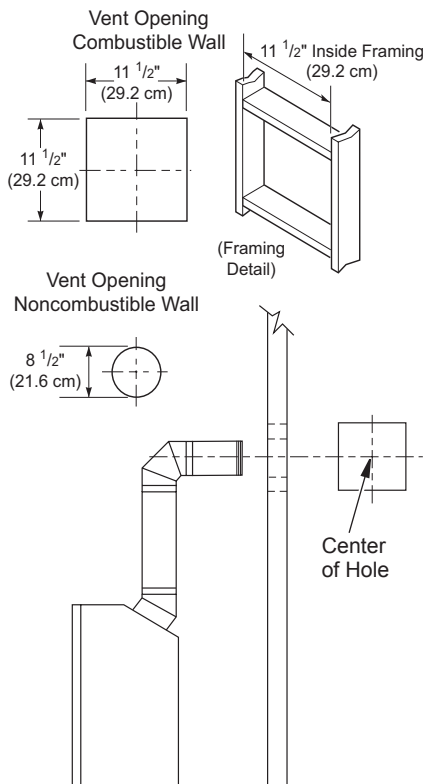
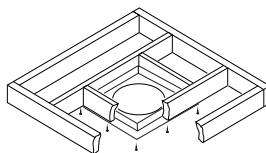

Figure 9 - Vent Opening Requirements
Figure 20 - Installing Firestop
5. Carefully determine location where vent pipe assembly will penetrate outside wall. Center of hole should line up with center line of horizontal vent pipe. Mark wall for a 11 1/2" x 11 1/2" square hole. Cut and frame square hole in exterior wall where vent will be terminated. If wall being penetrated is constructed of non-combustible material, such as masonry block or concrete, a 8 1/2" hole with zero clearance is acceptable (see Figure 9).
ing should be framed to 11 1/2" x 11 1/2" (29.2 cm x 29.2 cm) inside dimensions, as shown in Figure 9 on page 10 using framing lumber the same size as ceiling joists. If area above ceiling is an insulated ceiling or and attic space, nail firestop from top side. This prevents loose insulation from falling into required clearance space. If area above ceiling is a living space, install firestop below framed hole. Firestop should be installed with no less than three nails per side (see Figure 20).
3. Cut a hole in roof using locating hole as a center point. (Cover any exposed open vent pipes before cutting hole in roof.) The 11 1/2" x 11 1/2" hole must be measured on the horizontal; actual length may be larger depending on pitch of roof. There must be a 1" clearance from vent pipe to combustible materials. Frame opening as shown in Figure 9, page 10.